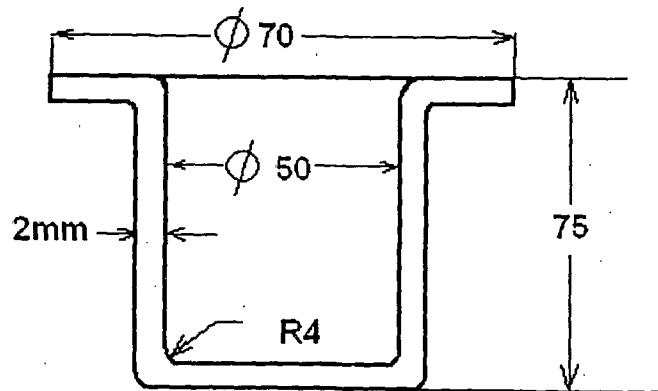

Fig.15.a
- (i)Welding fixtures (8)
- (iii)Inspection fixtures. (8)
15.a Design and draw 2 views of a combination Blanking and drawing die for the component shown in Fig. 15.a.